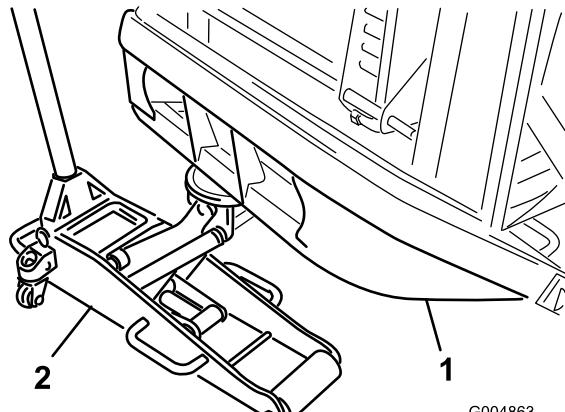

Figure 96
4. Position a suitable floor jack under the rear bumper tube and raise the rear tires off of the ground (Figure 96).